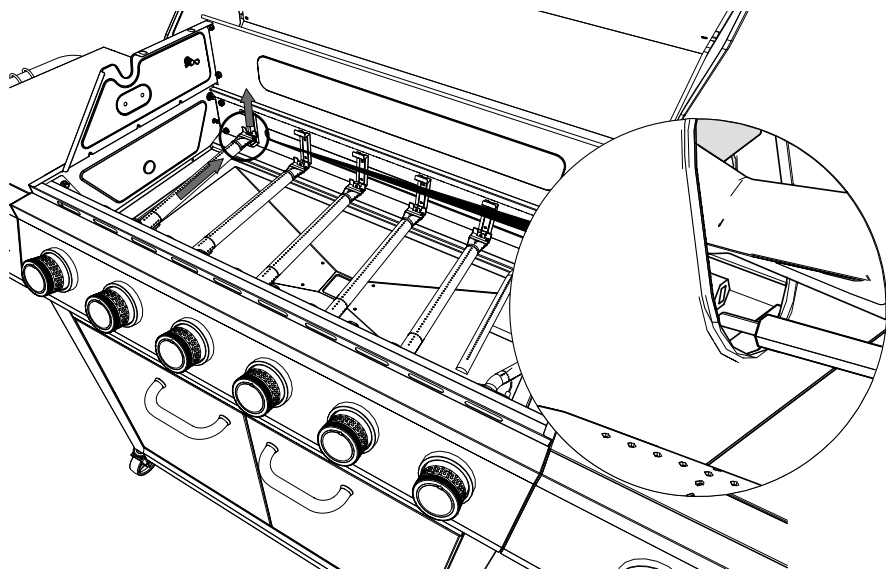

Figure 2
4. Detach ignition wire from electrode in Figure 2.